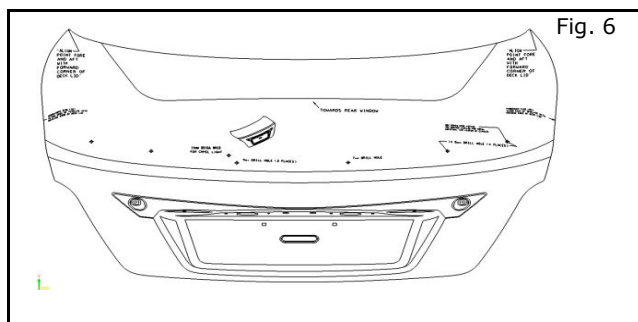

Fig. 6
- a) Use the instructions on the drill template to place it on the trunk lid. (Fig. 6)